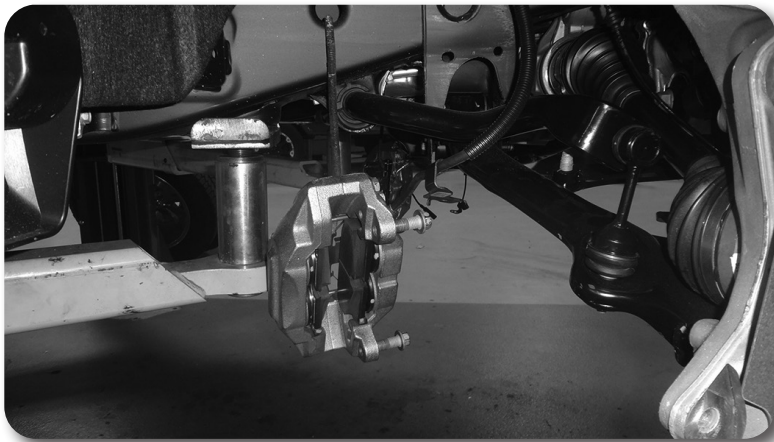

Figure 5
8. Remove the two brake caliper mounting bolts and remove the caliper from the knuckle **Fig. 5**. Hang the caliper securely out of the way **DO NOT** hang the caliper by the brake hose. Save caliper bolts.